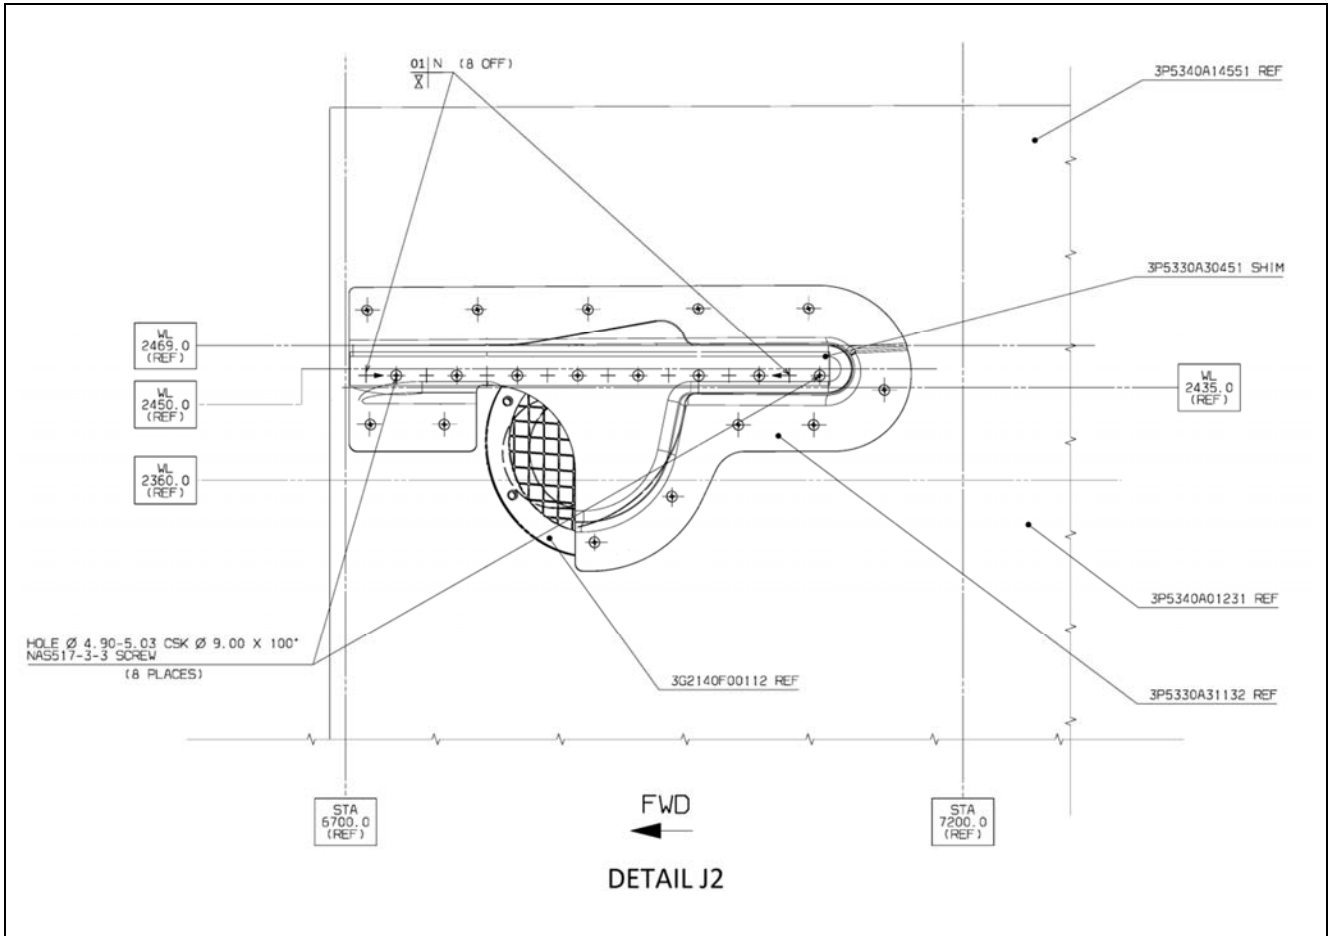

Figure 13 – Detail J
2. Remove the 3P5330A31132 LH Fairing Assembly (Fig. 13) as follows:
- 2.1. Remove paint and expose NAS517-3-X screws around the perimeter of the Fairing Figure 13 (Detail J) at twelve places.
- 2.2. Remove 3P5330A31132 Fairing Assembly and hardware (Fig. 13, Detail J)
10. Install the 3P5330A31132 LH Fairing Assembly (Fig. 13, Detail J) using the NAS517-3-X screws, standard torque, removed during the accomplishment of the previous step 2.